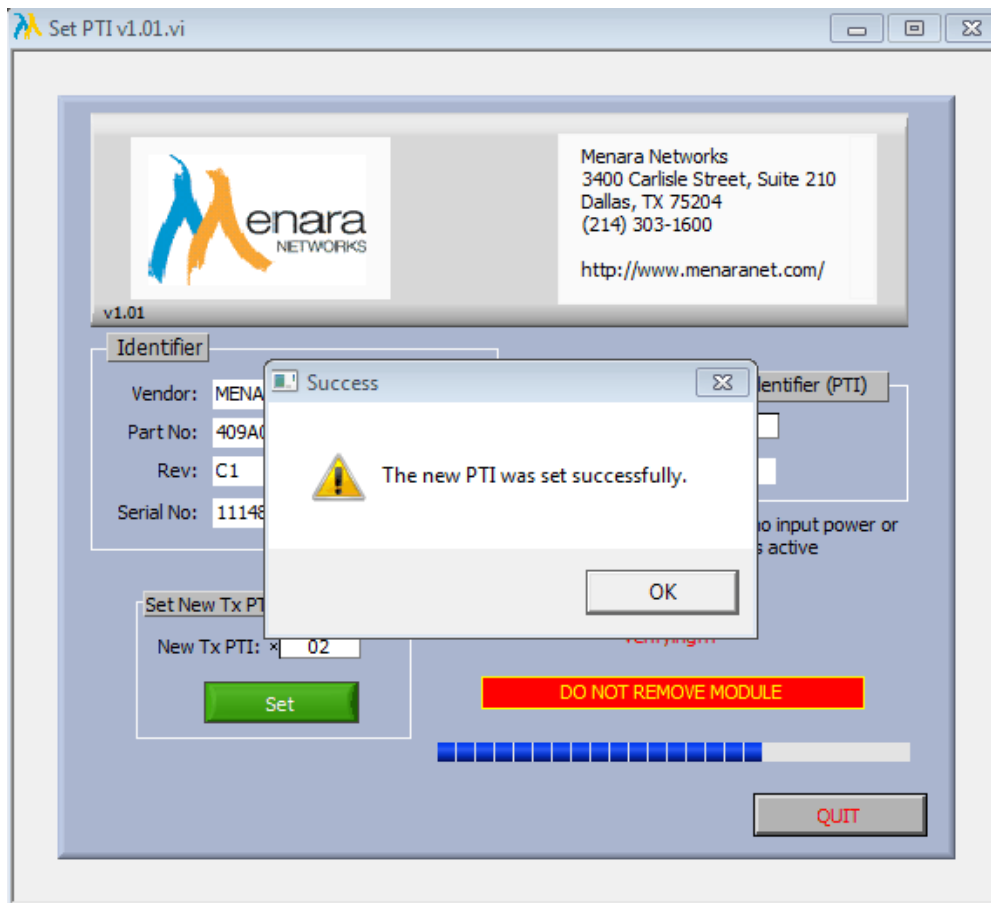

Figure 21: Set PTI Success
6. A successful completion will be show in Figure 21 below.